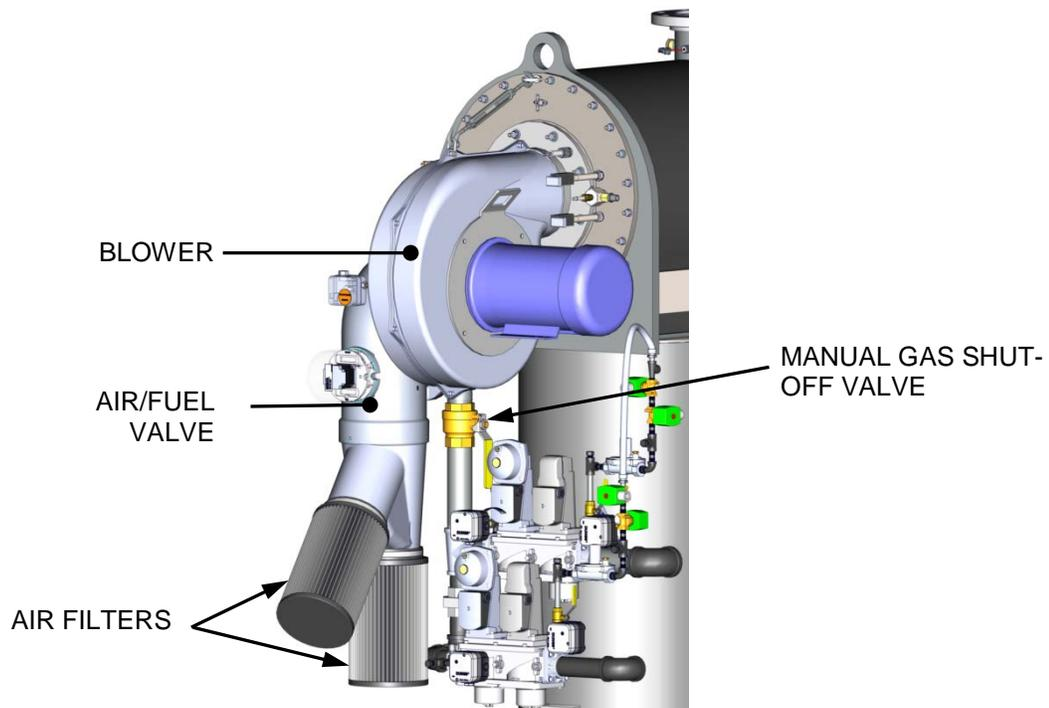

Figure 6-4: Bare Boiler – Partial View
3. Close the manual gas shut-off valve located between the Safety Shut-Off Valve (SSOV) and the Air/Fuel Valve (see Figure 6-4).
9. Once flame is proven, close the manual gas valve located between the SSOV and the Air/Fuel Valve (Figure 6-4).